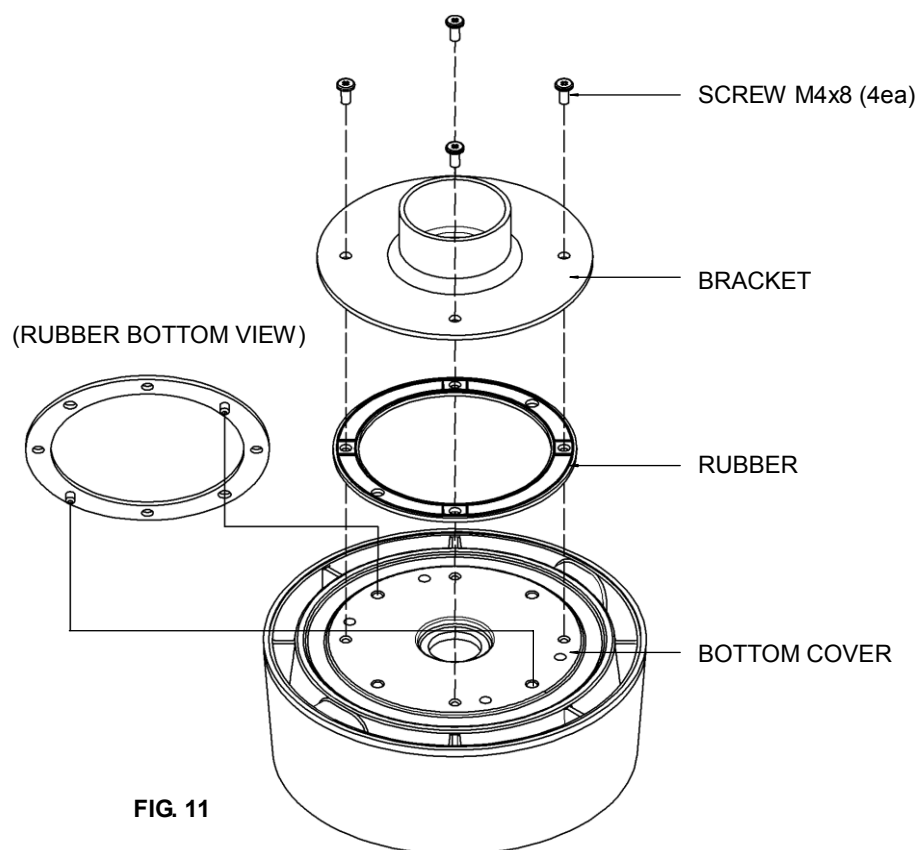

FIG. 11
1. As above FIG.11, assemble rubber and bracket on the bottom of camera.